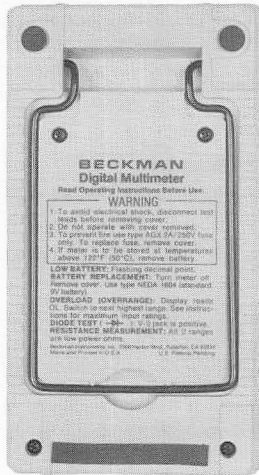

Figure 14. Rear View of Multimeter
1. After disconnecting test leads and turning off Multimeter, remove back cover by removing four screws, see Figure 14, and then lift off back cover.
1. After disconnecting test leads and turning off Multi-meter, remove back cover by removing four screws, see Figure 14, and then lift off cover.